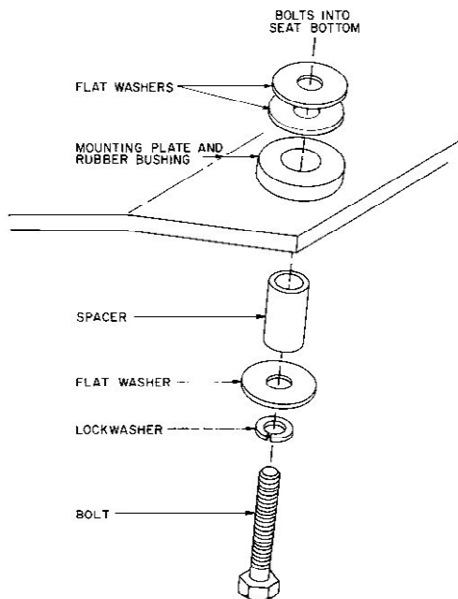

FIG. 1. Seat Installation
1. Mount the seat on the two rubber spacers in the seat support frame. This is done by taking one  $\frac{5}{16}$  x  $1\frac{1}{8}$  inch bolt, placing a  $\frac{5}{16}$  inch lockwasher, plain washer, and metal sleeve over it, sliding it through the rubber spacer, adding two additional  $\frac{5}{16}$  inch washers, and screwing the bolt into the matching hole in the bottom of the seat front. (See Fig. 1).